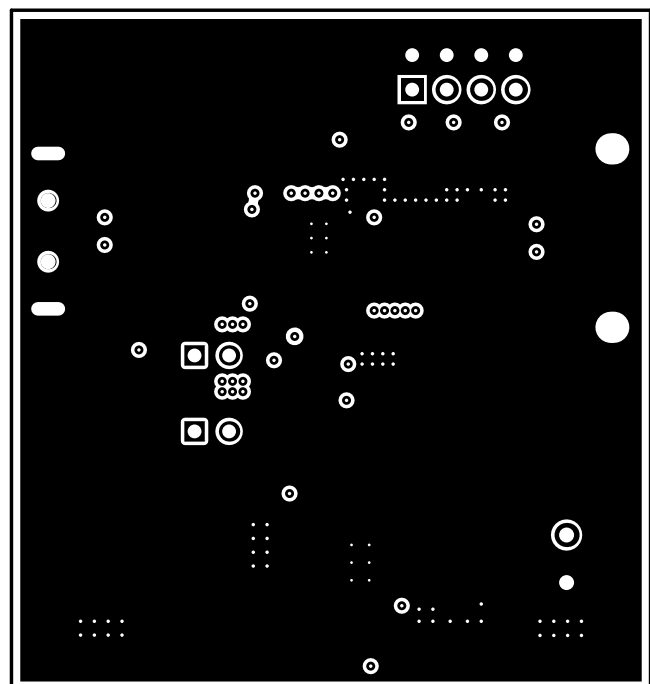
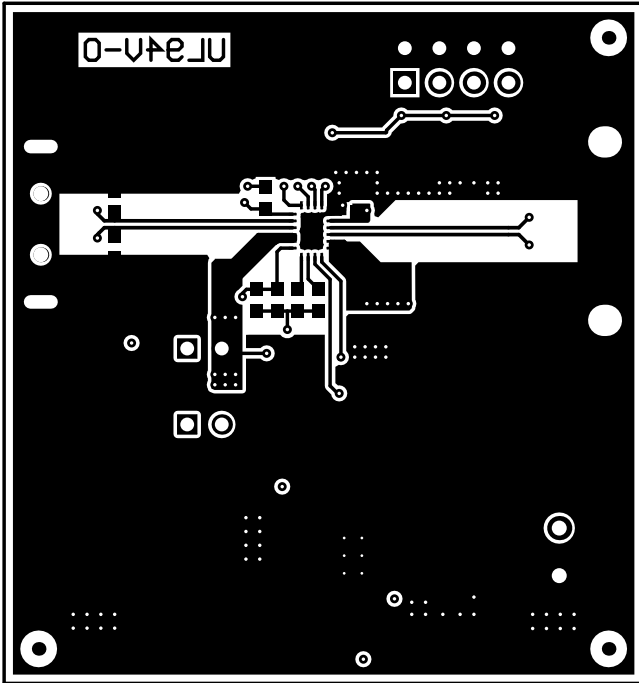

Figure 6. Layer Three Routing
Figure 7. Bottom Side Routing
- **DP-OUT, DM-OUT and DP-IN, DM-IN traces:** Route these traces as controlled impedance differential pairs per the USB-2.0 specification. Minimize the use of vias in the high-speed data lines. Figure 7 provides a good signal routing example for the high-speed data traces. In this example, the data pairs are routed as edge-coupled microstrips with nominal differential impedance of 90 Ω . The reference plane is tied to GND and is shown in Figure 6. Ensure that the reference plane is void of cuts or splits above the differential pairs to prevent impedance discontinuities.